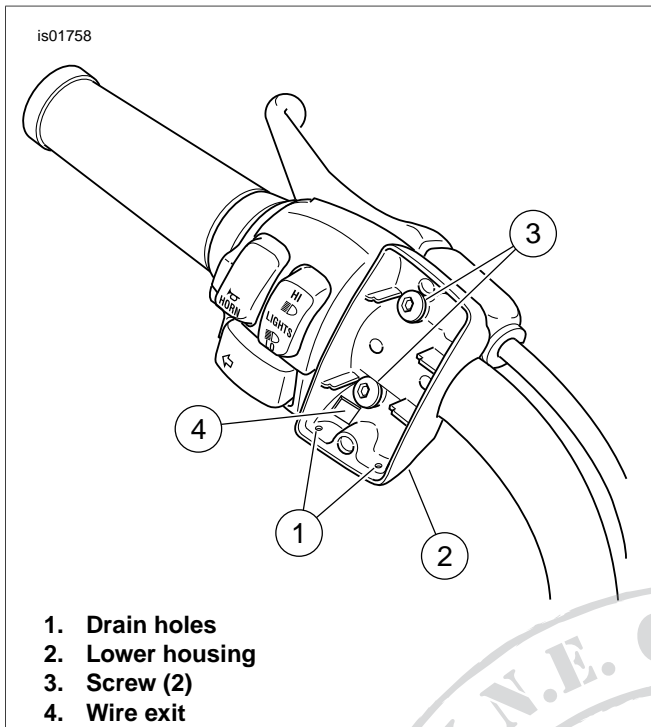

Figure 2. Install Lower Auxiliary Accessory Housing
See Figure 2. The lower housing must be installed with the drain holes (1) down.
4. See Figure 2. Install the lower housing (2) using two zinc-plated button-head screws (3) from the kit (or part number 3832M for 2004 and later XL models) and flat washers. Position the lever as noted earlier and tighten the screws to 60-80 in-lbs (8-9 Nm), using a 5/32 in. hex wrench.